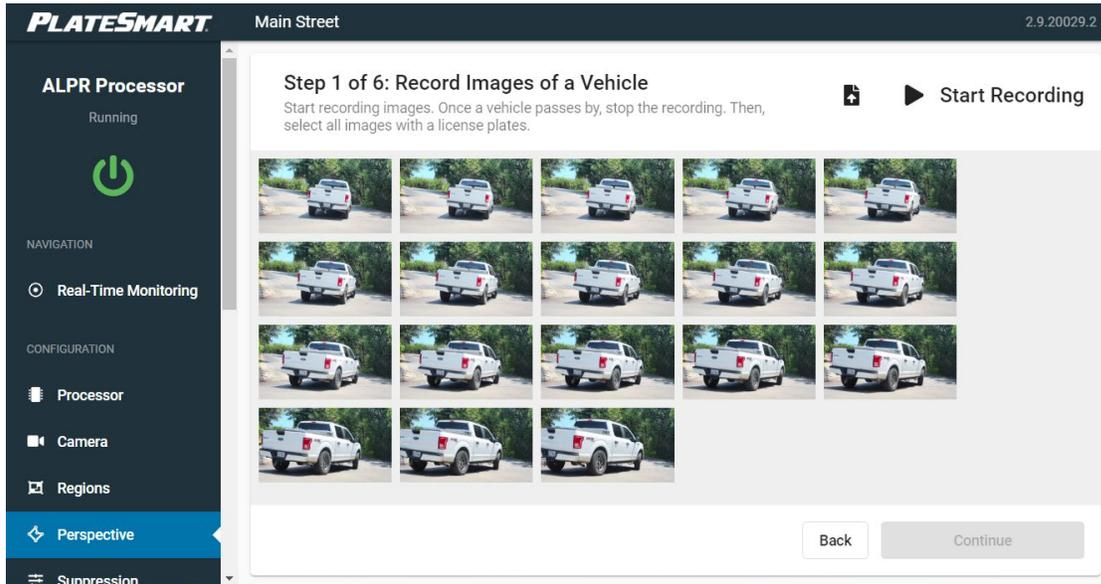

Figure 4
5. Once you feel you have enough images from which you can choose one, click “Stop Recording” in the upper right. You will have a matrix of 42 images to choose from (Figure 4).